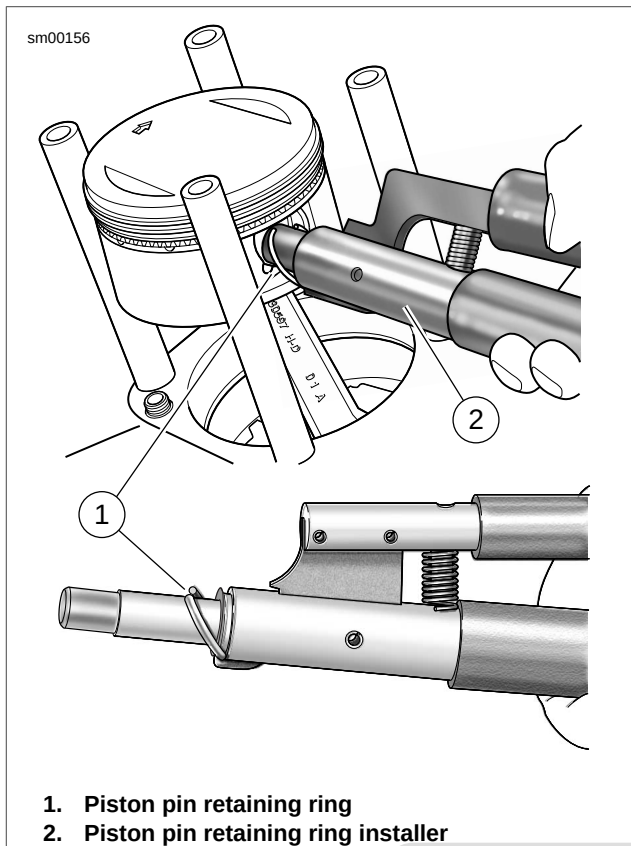

Figure 3-72. Removing Piston Pin Circlip
8. See Figure 3-72. Remove the piston pin circlip as follows: